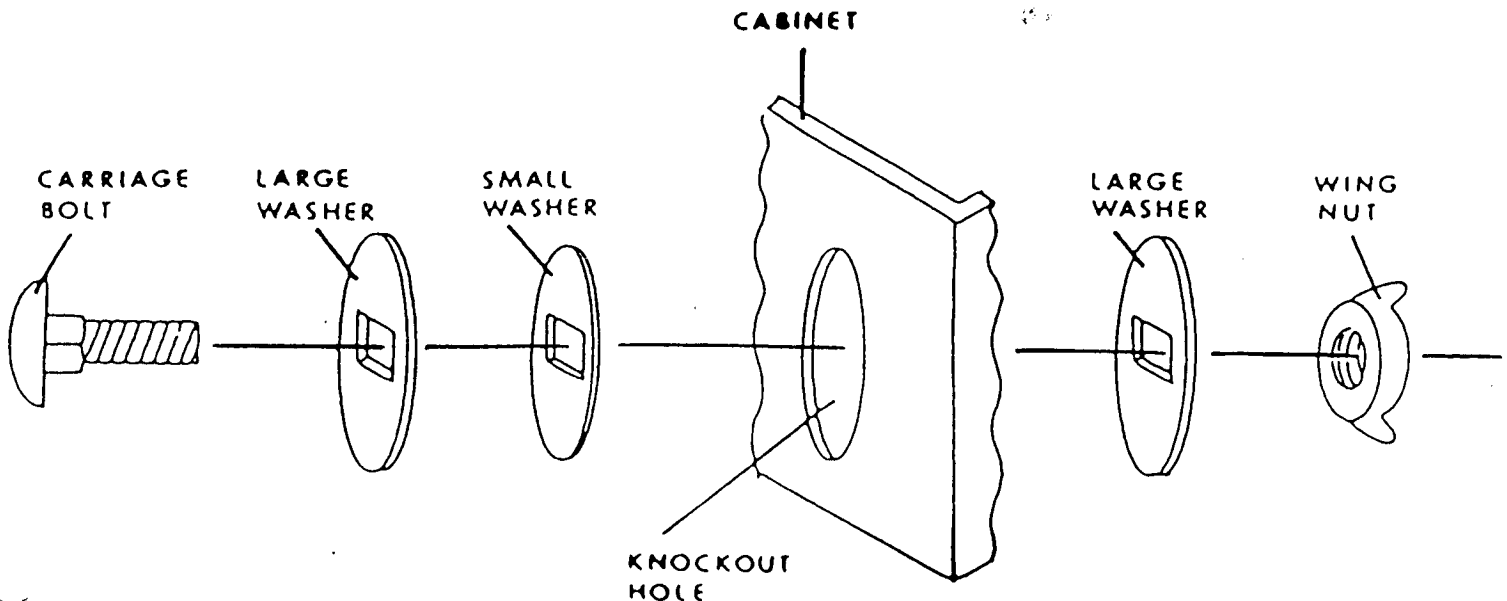

FIGURE 2.3.4A: KNOCKOUT PLUG INSTALLATION DIAGRAM
7. All unused knockout holes must be plugged using bolts and washers (available from Silent Knight, Model 7600, 6 sets per package). To do this, follow the directions below (see Figure 2.3.4A).